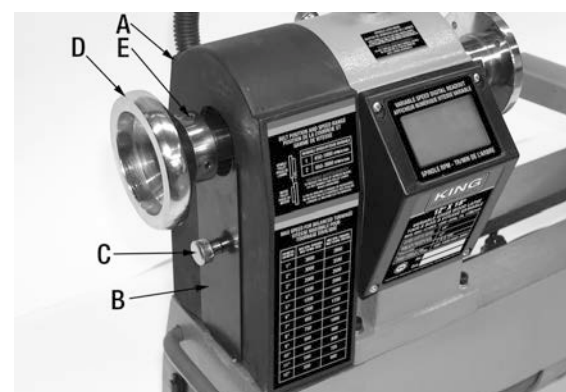

FIGURE 7
4. Position the belt cover (A) Fig.7 over the spindle pulley and belt and lock it in place using the side plate (B) and lock knob (C).
5. Install handwheel (D) Fig.7 to spindle by tightening the 2 set screws (E).